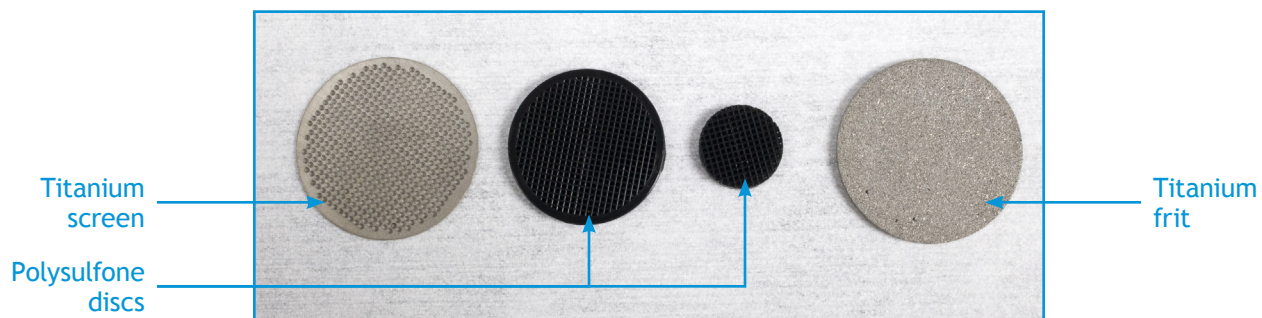

Figure 3-12: Types of puck support
2. Into the puck bottom, place a support. Refer to the following table for the type of support required for a given puck type (Figure 3-12).